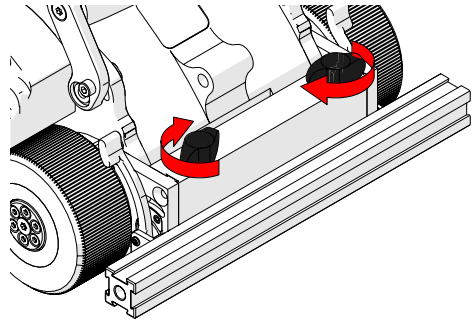

Fig. 51 - Tighten wing knobs
2. Once the frame bar placed appropriately, rotate the two black wing knobs to clamp the component in place (*Fig. 51*).